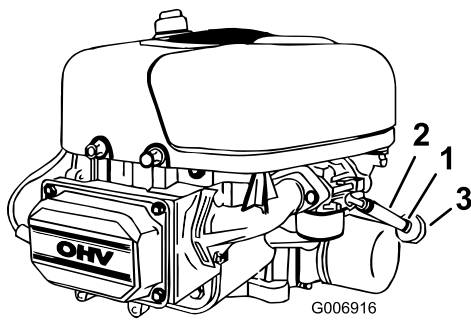

Figure 25
5. Open the hood and locate the fuel filter (Figure 25).
6. Squeeze the ends of the hose clamp together and slide it up the fuel line toward the fuel tank (Figure 25).
7. Pull the fuel line off of the fuel filter (Figure 25) and allow gasoline to drain into a fuel container or a drain pan.
The best time to replace the fuel filter (Figure 25) is when the fuel tank is empty. Never install a dirty fuel filter after it has been removed from the fuel line.
4. Squeeze the ends of the hose clamps together and slide them away from the fuel filter (Figure 25).